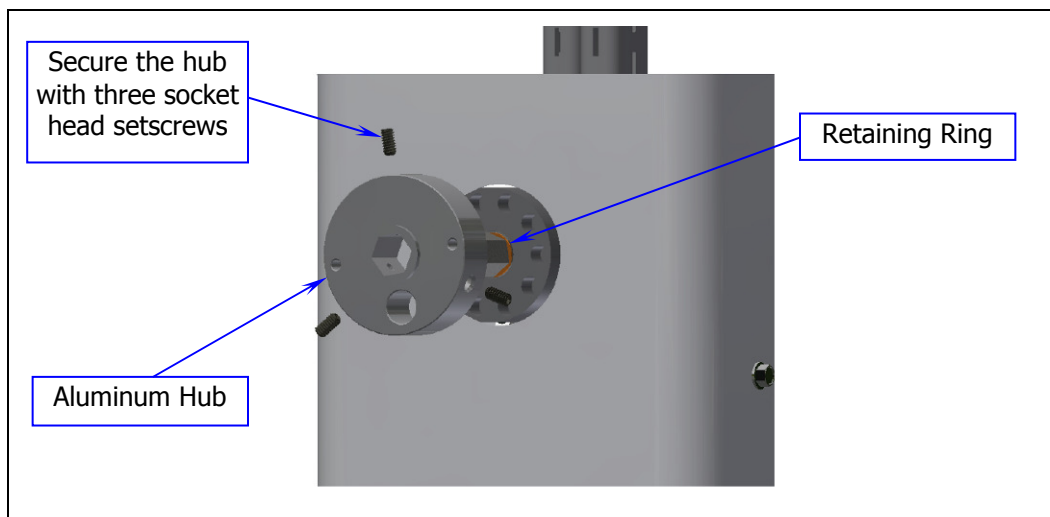

Figure 4: Aluminum Hub installation
7. Slide the **Aluminum Hub** onto the drive spindle until it is butted against the retaining ring. The hub has three socket head setscrews. Using the supplied Allen key, tighten the **three setscrews** firmly on the shaft. See **Figure 4** below